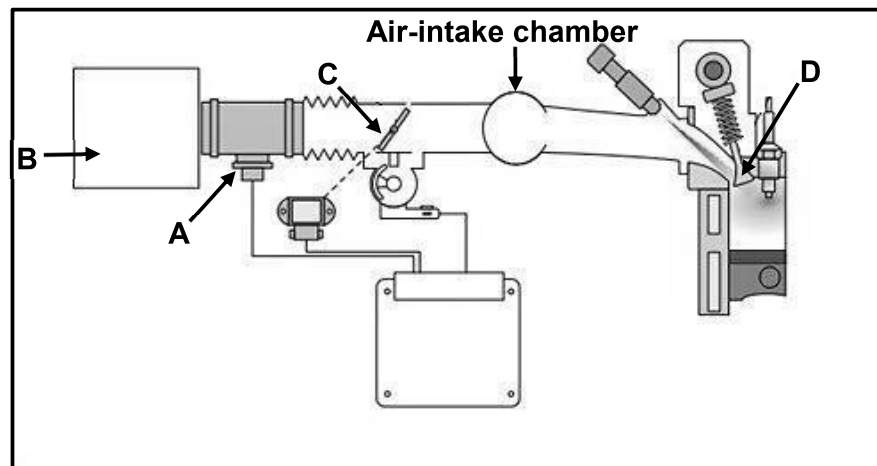

FIGURE 10.7
- 10.7 FIGURE 10.7 below shows an air-induction system. Answer the questions that follow.